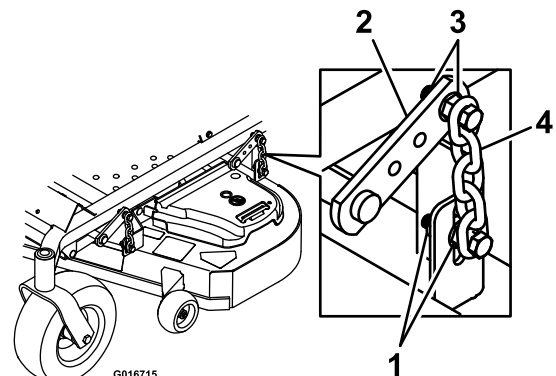

Figure 25
10. Loosen the leveling adjust locking nuts (item 1 Figure 25) on all four corners so that the deck is sitting securely on all four blocks. Make sure that the slack is removed from the deck hangers and the deck lift foot lever is pushed back against the stop, then tighten the four leveling adjust locking nuts.
7. Loosen the leveling adjust locking nuts (item 1 Figure 25) on all four corners so that the deck is sitting securely on all four blocks. Make sure that the slack is removed from the deck hangers and the deck lift foot lever is pushed back against the stop, then tighten the four leveling adjust locking nuts.